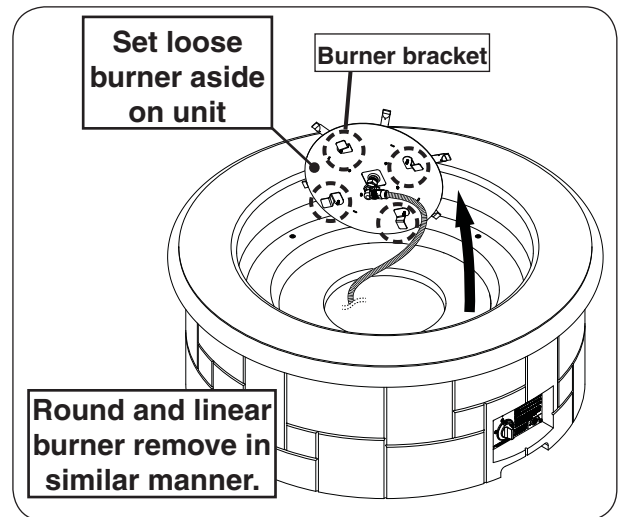

Fig. 22-2 Remove burner assembly
2. Use a $\frac{5}{16}$ " nut driver to partially unfasten the four or eight screws found on the burner assembly. Then carefully remove the burner and set it off to the side. See Fig. 22-2.